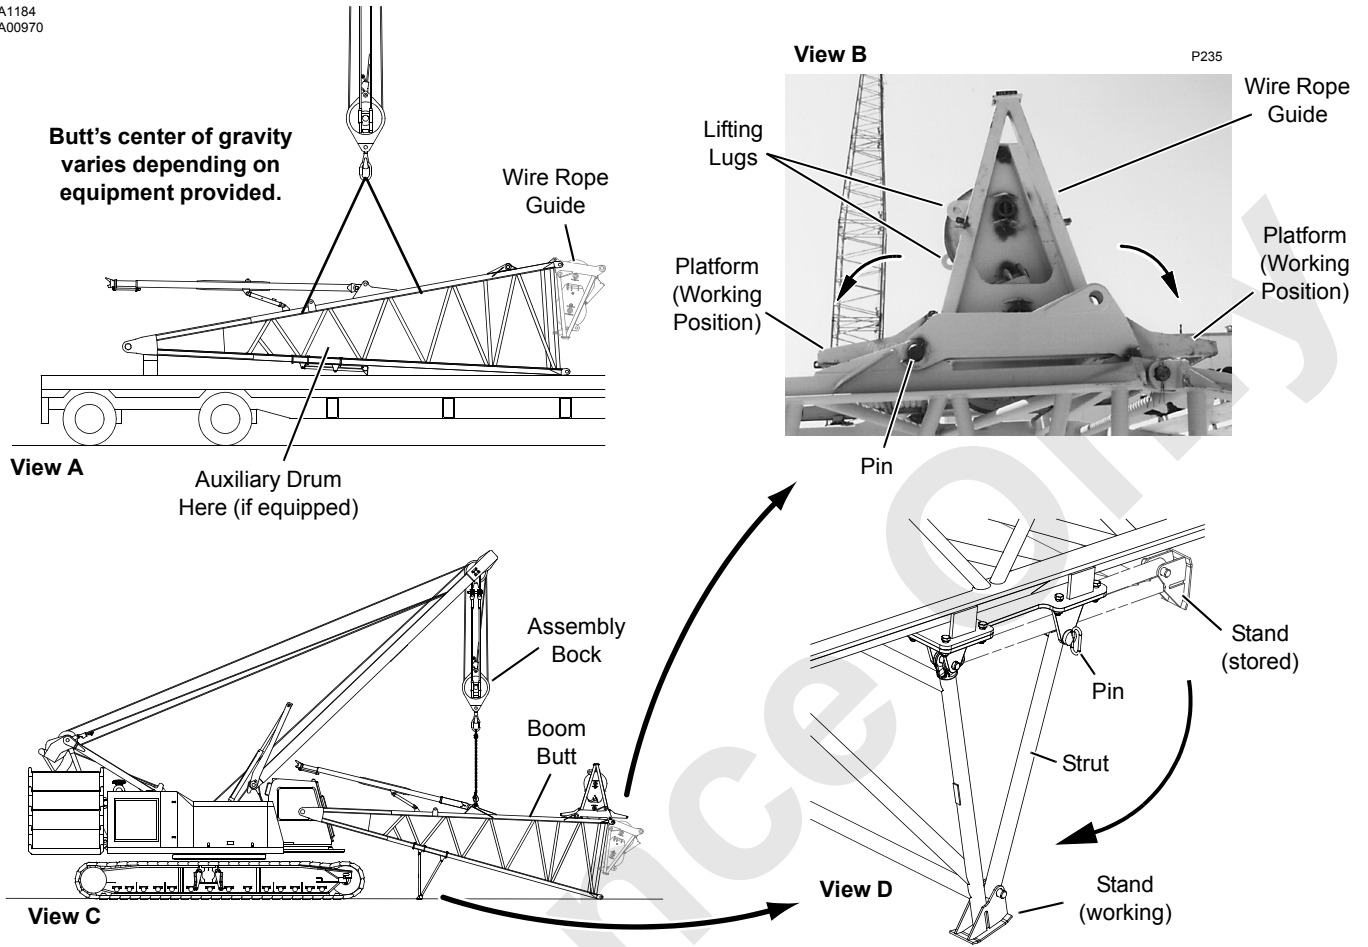

FIGURE 4-11
See Figure 4-11 for the following procedure.
14. See Figure 4-11, View D, and move boom butt support frame to storage position: